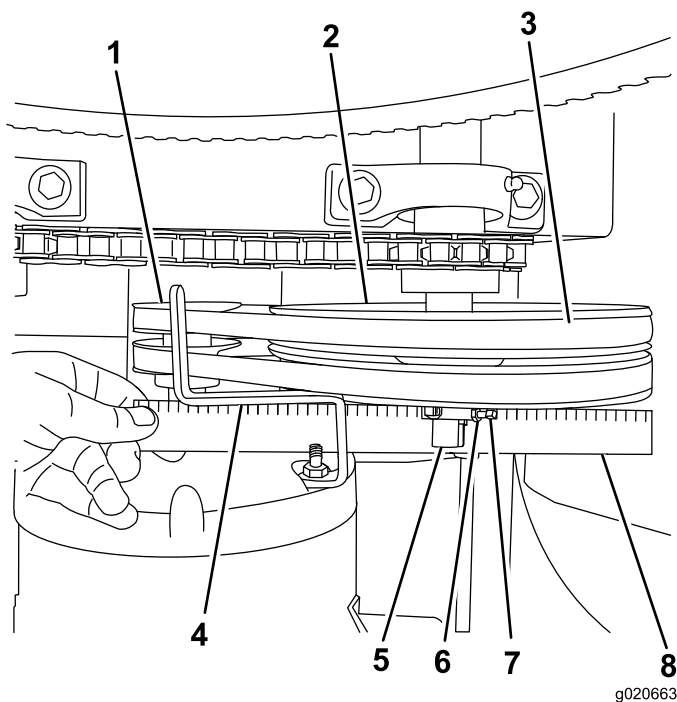

Figure 37
- D. Align a straightedge across the motor pulley and the idler pulley (Figure 37).
- E. If needed, pivot the motor on the motor deck until the motor pulley and the idler pulley are aligned to the straightedge (Figure 37).